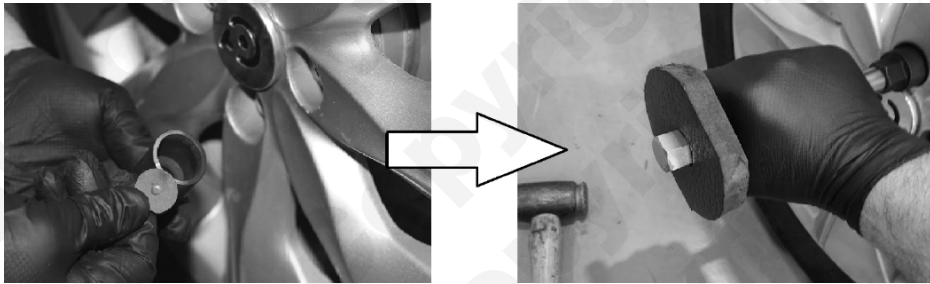

Fig.2
2. Important – place one extraction disc in to the socket and then fit the socket over the locking wheel nut. Using either **J** (with an air hammer) or **N** with **M** and a copper mallet or club hammer drive the socket on to the locking wheel nut. It may take more than one attempt to drive the socket on tight enough. See figure 2.